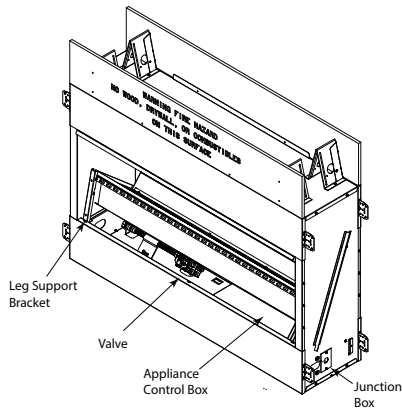

Figure 6.1. Appliance With Engine Lifted
The valve and controls are located in the appliance control box. See Figure 6.1.
The control box and controls can be accessed by lifting engine assembly and shown in Figure 6.1
- Remove four (4) 1-1/2 inch screws securing burner assembly to appliance, located on the front left and right of the burner assembly directly behind the deflection glass retainers.
- Lift the burner assembly and place the two engine supports, provided under the Engine, against lower front space at the bottom of the face, and slide into the slots at the bottom of the engine assembly. See Figure 6.1.